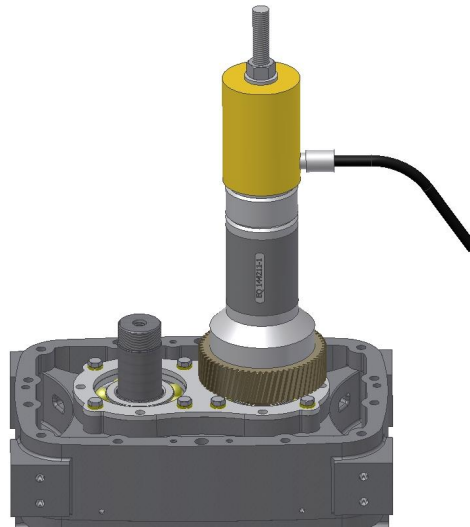

Figure 7-11 – PINION GEAR INSTALLATION
43. Install key (36) into keyway on idler rotor shaft.
46. Place heated gear onto idler rotor shaft (over pull rod) and align keyway with key in shaft. Place driver tool EQ144211-1 over pull rod. Reference FIGURE 7-11. Place portable hydraulic cylinder over pull rod and onto driver tool. Install 3/4" flat washer and nut onto pull rod and tighten against hydraulic cylinder. Press gear onto rotor shaft until tight against bearing inner race. Piston ring carrier, bearing inner race, and pinion gear must be clamped tight against rotor. To ensure gear remains tight against bearing race, do not remove tooling until gear has cooled to at least 120°F.